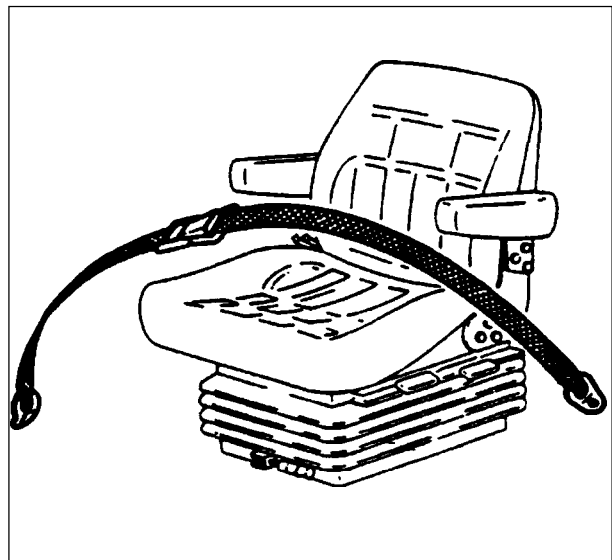

Fig.2-2
- If a seat belt is installed, always wear your seat belt - adjusted snugly except when operating with a folded down safety frame or if the safety frame has been removed (Fig. 2-2).